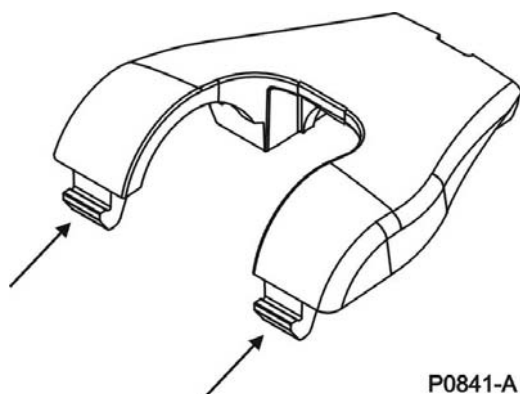

Figure 22: Coil Retainer with Tabs Indicated
- Position the two tabs at the rear of the coil retainer cover (Figure 22) into the cut-outs in the rear of the coil top.